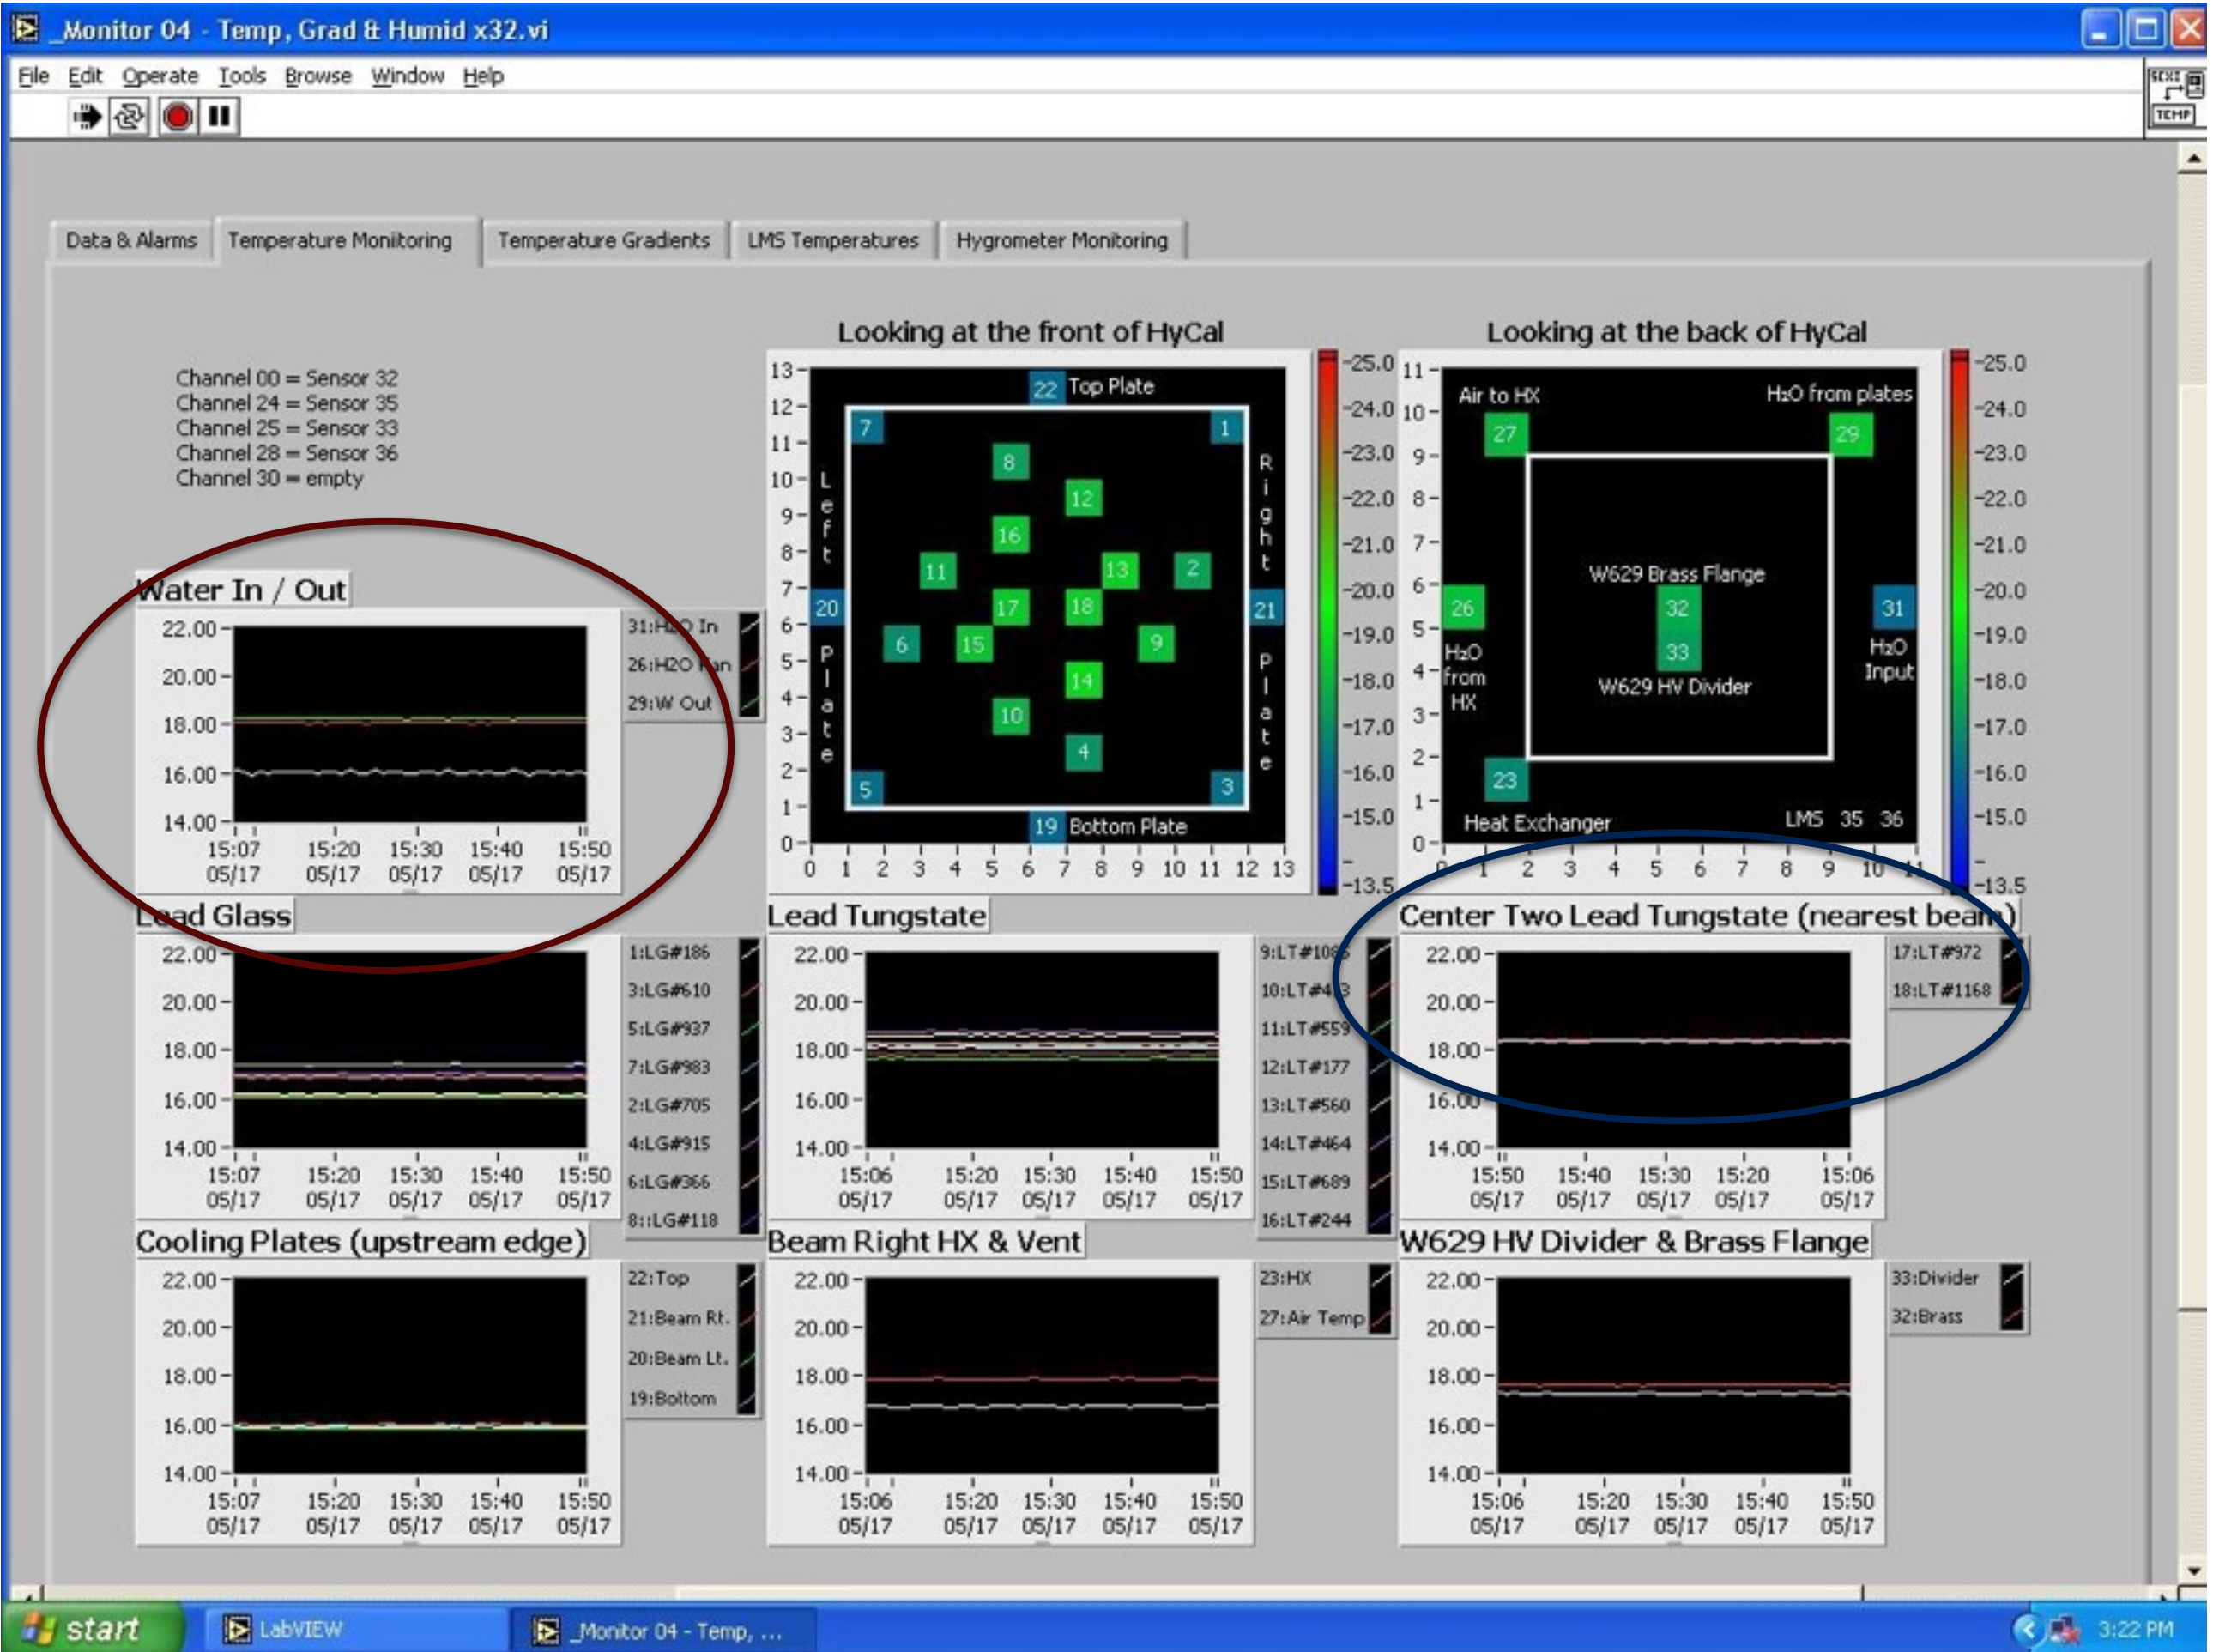

Fig. 4
- Hycal temperature and Chiller water temperature: Get from the right viewer camera image on CLONPC17 (see Fig. 4, Hycal temp is shown by blue oval and chiller water temp is shown by the red oval.)
- Chiller water pressure: Get from the right viewer camera image on CLONPC17 by panning down using the slider on the right side of the window. The gauges are hard to read from the camera image, but if they look as in Fig 4, that is normal. Please move camera back to original position after use.